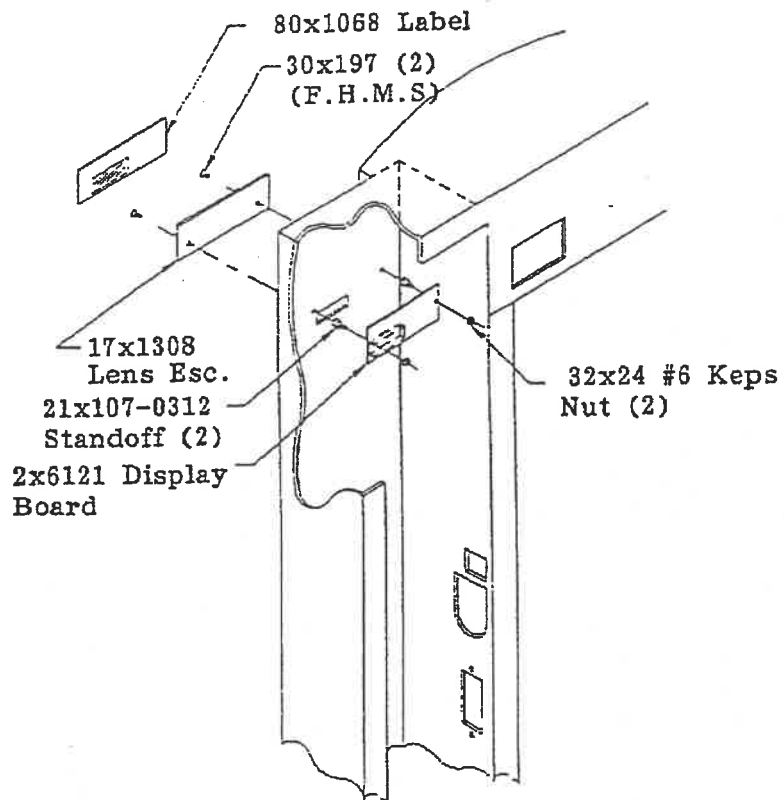

Figure 2
(See figure 2, page 5.)
- I. Place the two counter sunk screws in the holes in the lens and through the door. Secure the screws with two standoffs and tighten. (See figure 2, page 5.)
- J. Place the display board on the standoff studs. Ensure the display LED aligns with the cut out and secure it with the #6 plastic keps nuts. (See figure 2, page 5.)